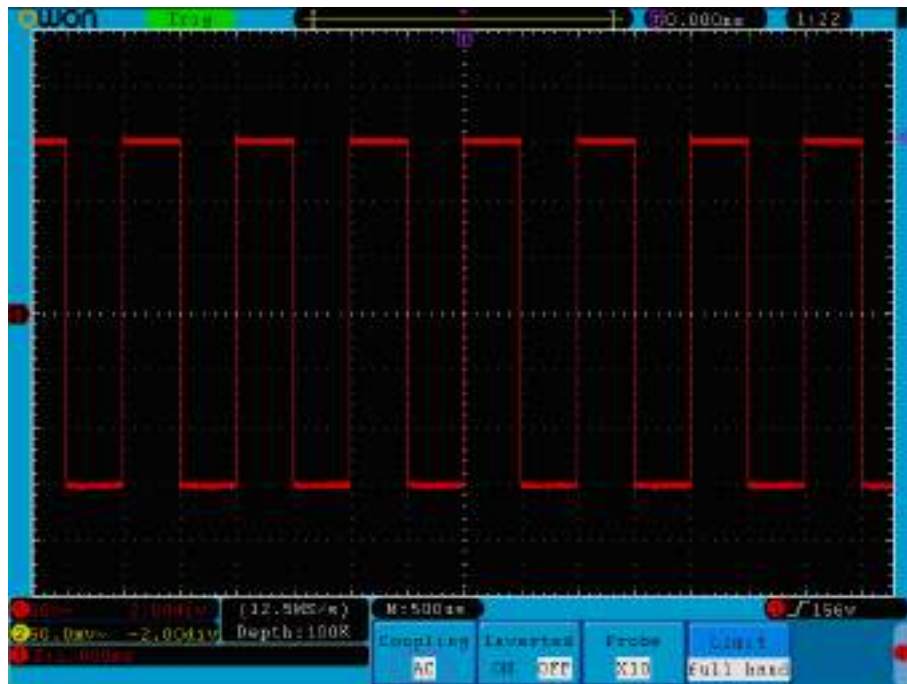

Fig. 5-2 AC Coupling Oscillogram
- (1) Press the **CH1 MENU** button and call out the CH1 SETUP menu.
- (2) Press the **H1** button, the Coupling menu will display at the screen.
- (3) Press the **F1** button to select the Coupling item as “**DC**”. By setting the channel coupling as DC mode, both DC and AC components of the signal will be passed.
- (4) Then, press **F2** button to select the Coupling item as “**AC**”. By setting the channel coupling as AC mode, the direct current component of the signal will be blocked. The waveforms are shown as Fig.5-2.